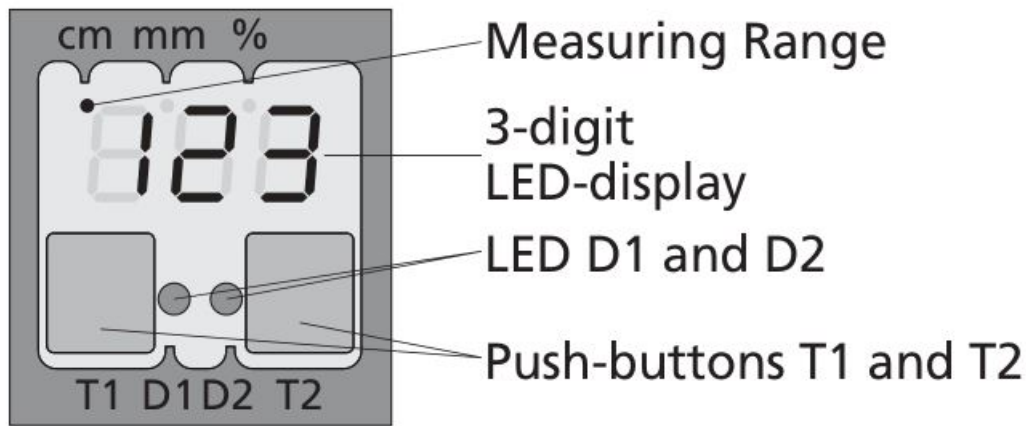

Fig. 2: TouchControl/LED display
- Set the parameters of the sensor manually via TouchControl (see Fig. 2 and Diagram 1)